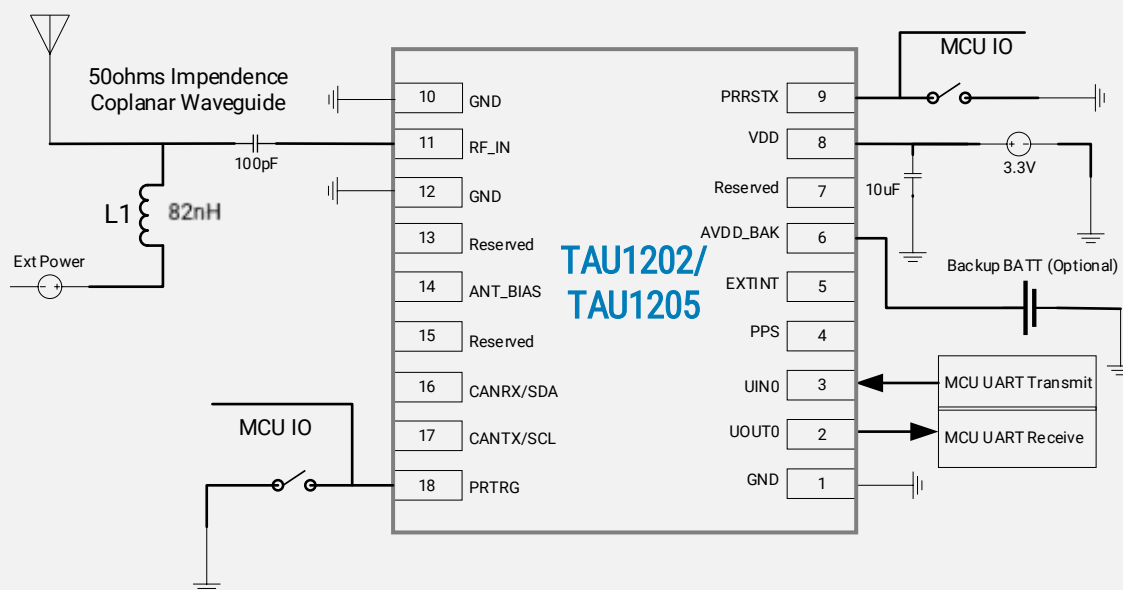

Figure 9 Minimal application diagram with external power for ANT
- If the active antenna is powered by a supply source other than the module, a capacitor should be used to block the DC from RF_IN. (Refer to **Figure 9**)